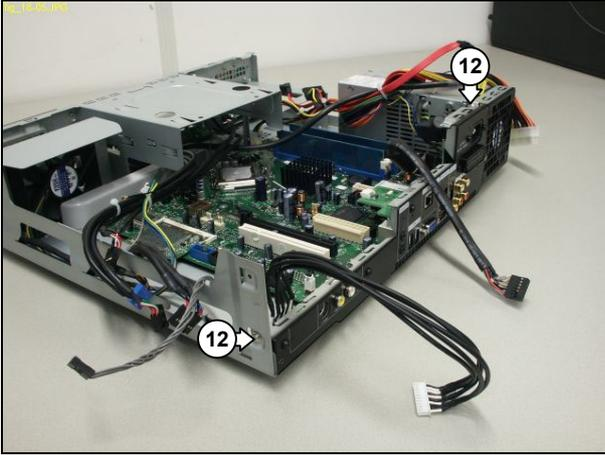

Figure 12.15-5
18. Move the cables aside to allow clear access to the motherboard subassembly. See Figure 12.15-5.
19. Remove the 2 mounting screws (12) from the motherboard subassembly. See Figure 12.15-5.